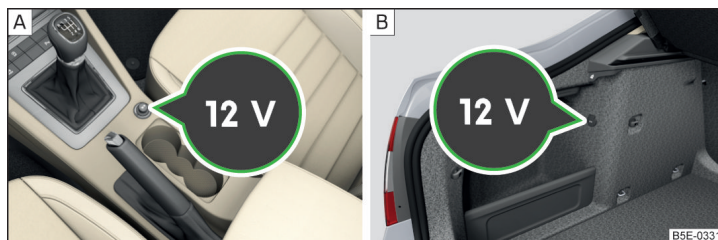

Fig. 85 12-Volt power socket: in the front centre console/ in the boot
Overview of the 12-volt power socket » Fig. 85
- Remove the cover on the power socket » Fig. 85 - [A] or open the cover on the power socket as appropriate » Fig. 85 - [B].